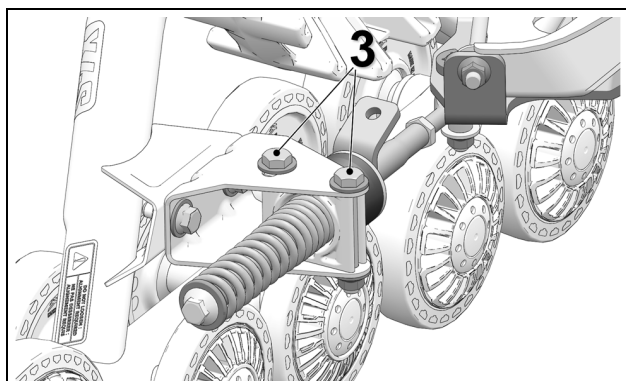

Figure 17
- Re-tighten anti-rotation bracket bolts (3) to 50 N•m [37 lb-ft] of torque. See Figure 17.